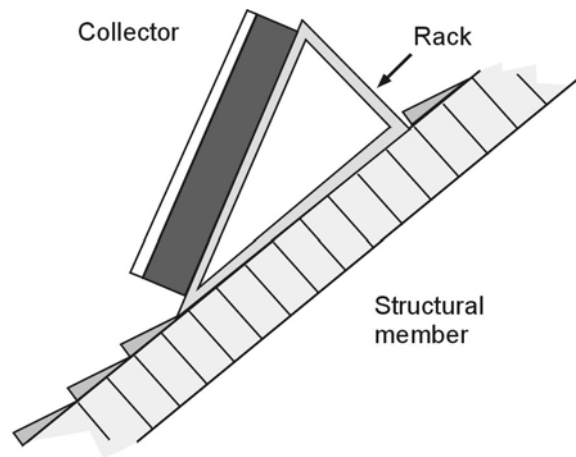

Figure 5 Rack-mounted collector
1. **Rack Mounting.** This method is used on homes with flat roofs. Collectors are mounted at the prescribed angle on a structural frame (Figure 5). The structural connection between the collector and frame and between the frame and building, or site must be adequate to resist maximum potential wind loads.